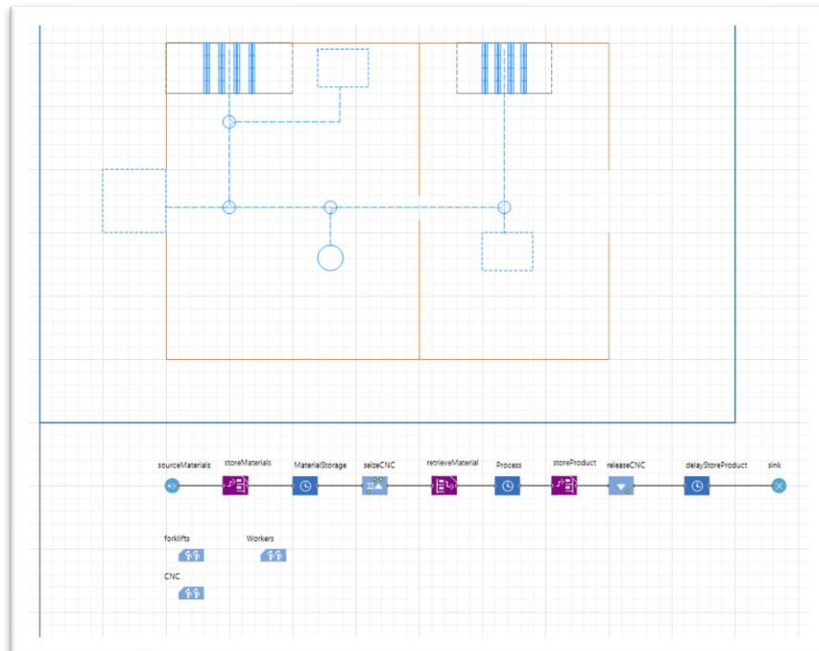

Figure 8. Complete Workflow.
Step 4l. Finally add a *sink* from the *Process Modeling Library* to the end of the flow chart. The *sink* will dispose of the *Agent* at the end of this flow chart and simulate products leaving the system. See Figure 8 for the complete workflow of step 4.